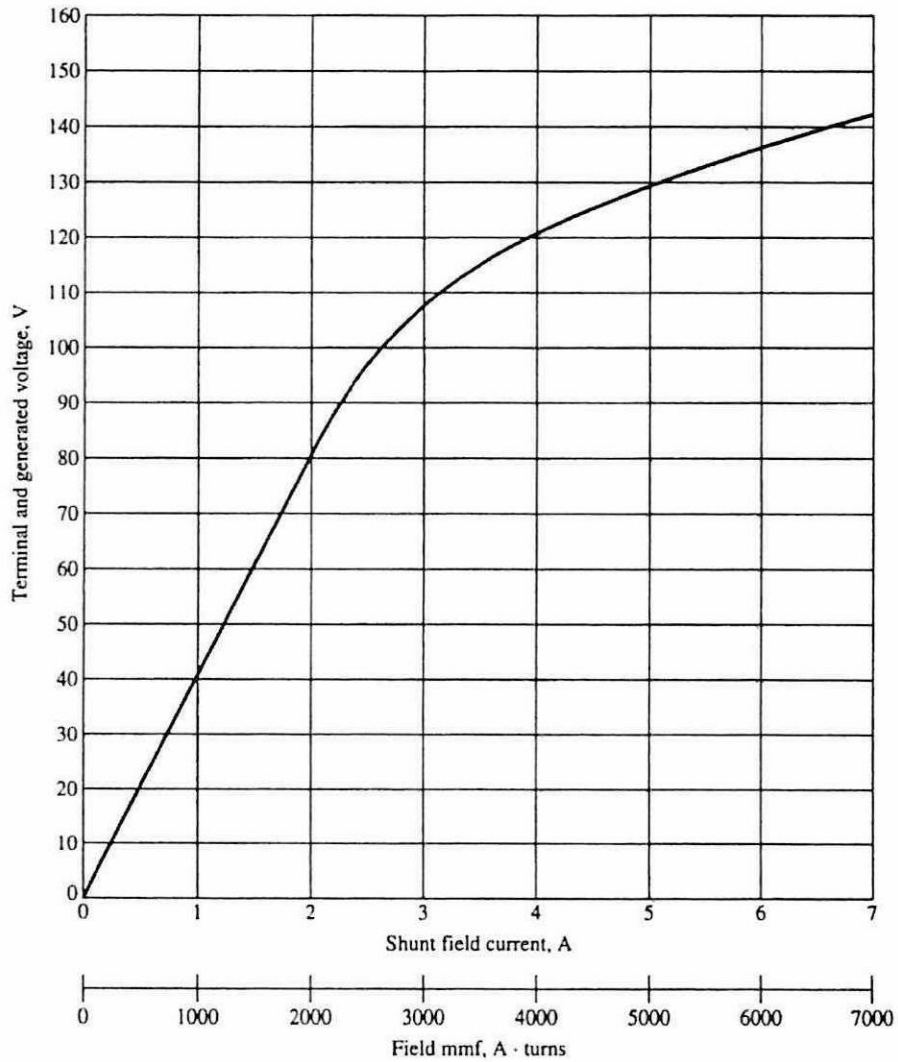

Figure Q4(c)
- (c) The magnetization curve for a separately excited DC generator is shown in **Figure Q4(c)**. The generator is rated at 6 kW, 130 V, 50 A, and 1600 r/min. Its field circuit is rated at 5 A. The following data are known about the machine: